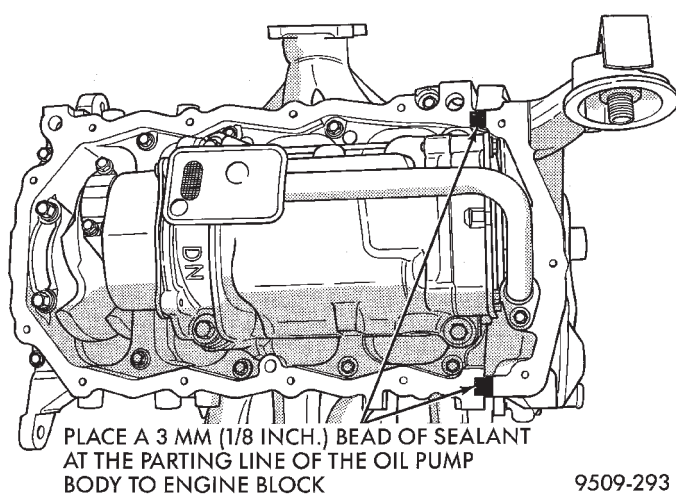

Fig. 59 Oil Pan Sealing
(1) Apply Mopar Silicone Rubber Adhesive Sealant or equivalent at the oil pump to engine block parting line (Fig. 59).